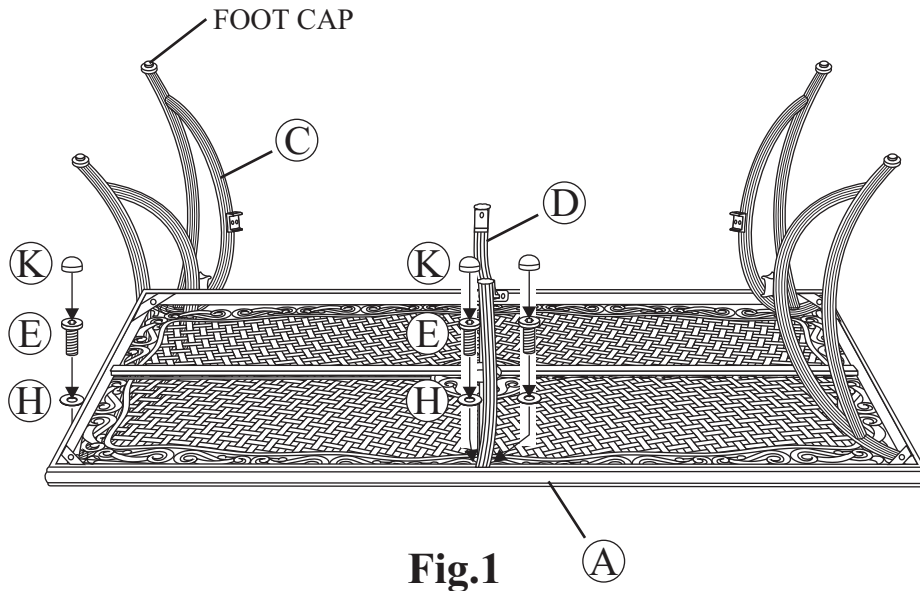

Fig.1
Place the table top upside down on a flat, non-abrasive surface. Attach the table leg to the table top by using the bolts and washers as shown in Fig. 1. Guide the bolts through the holes in the table leg, into the pre-drilled holes in the table top. **Hand tighten only.** Repeat for the other three legs.
- 1 Place the table top upside down on a flat, non-abrasive surface. Attach table leg to table top by using a 1/4"x20 mm bolt and a washer as shown in **Fig.1**. Place the leg beneath the table rim corner bracket. Guide the bolt through the hole in the table rim and into the pre-drilled hole in the table leg. **Hand tighten only**. Repeat for the other three legs. Attach the topside support to the table top by using two 1/4"x20 mm bolts and washers as shown in **Fig.1**. **Hand tighten only**. Repeat for the opposite side.